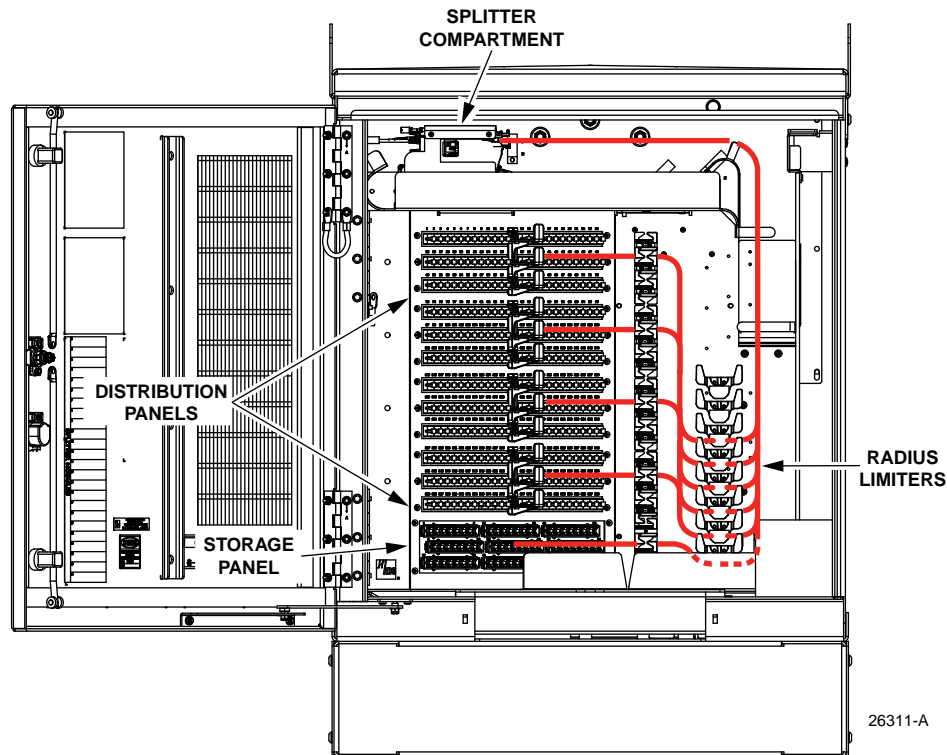

Figure 30. Routing Splitter Output Fibers
- Use the radius limiters on the right side of the cabinet to store any excess fiber slack. Refer to Figure 30 for the routing guidelines.
6. Use the radius limiters on the right side of the cabinet to store any excess fiber slack. Refer to Figure 30 for the routing guidelines